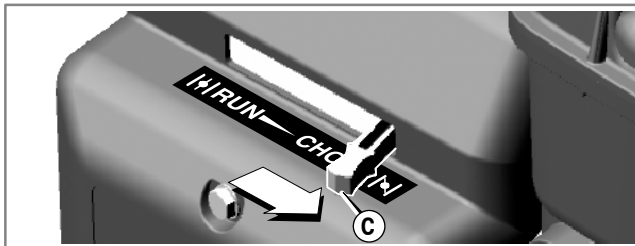

Figure 6: Choke Control Lever
3. Move the choke control lever (C) to the CHOKE |  position (Figure 6).